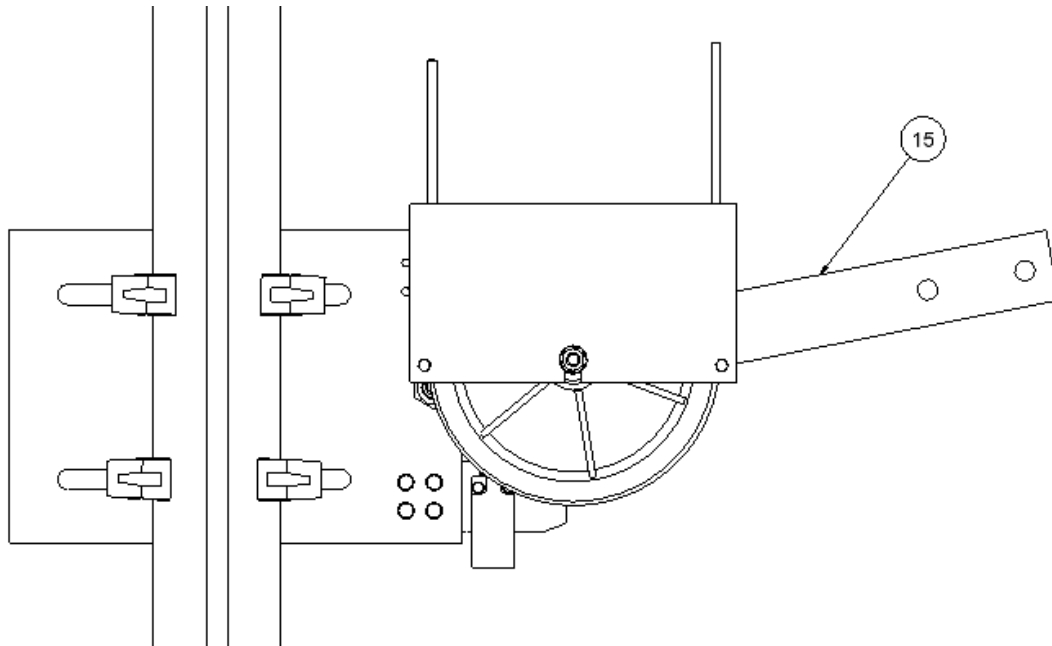

Figure 6
So, in order to get the weight support bar in the mentioned position, the ensemble will have to descend, use a Nylon hammer to hit in the hitch guide plate til the position of the tension pulley is the position shown in the figure 6.
-Fig.6-.